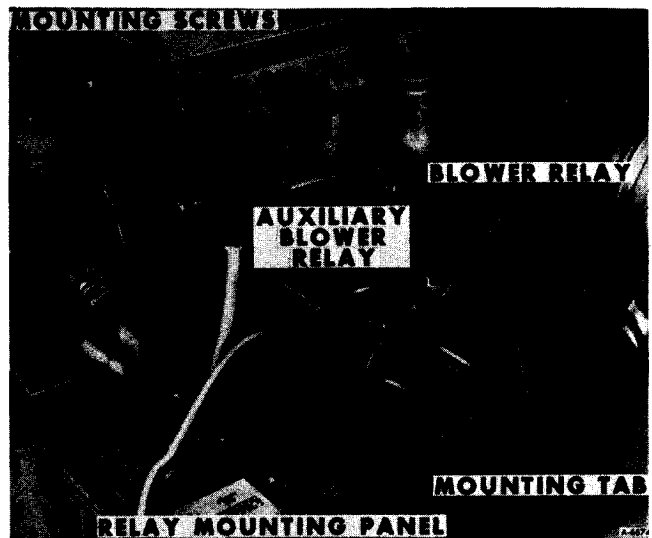

Figure 15 — Furnace Relay Mounting Panel Installed
2. Remove two relay panel mounting screws (Figure 15).
3. Be sure relay mounting panel engages mounting tab (Figure 15). Install two panel mounting screw.